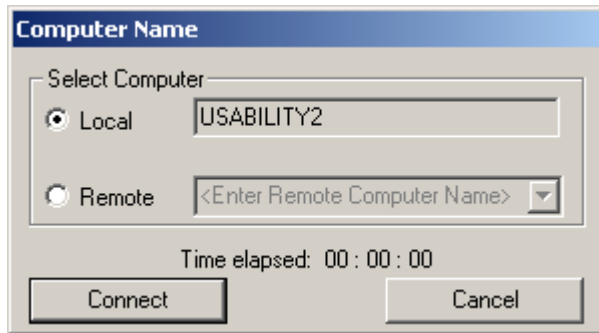

Figure 5. Computer Name Dialog Box - Local
3. When DCM starts, specify the computer to connect to in the **Computer Name** dialog box (Figure 5). It will display automatically the first time you run DCM. If the **Computer Name** dialog box isn't already displayed, you can get it by selecting the **Connect** option from the **File** pull-down menu or by clicking the **Connect** icon on the DCM Main Window.
When DCM starts, the DCM Main Window displays the boards installed in your system in a tree structure. This display is for the computer you specified using the **Computer Name** dialog box (Figure 5, “Computer Name Dialog Box - Local”, on